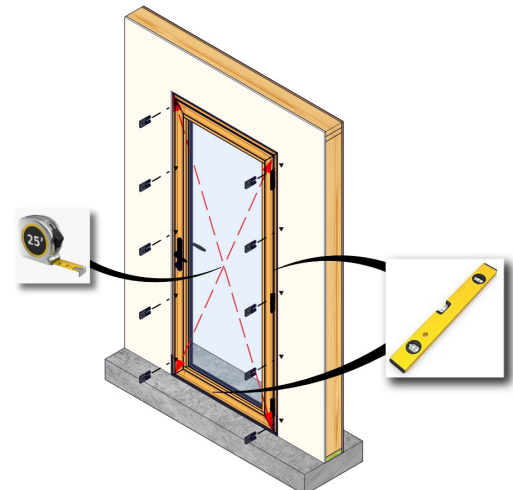

Fig. 5
4. From the interior, square the frame in the opening by installing shims between the jambs and framing. (Fig. 5)